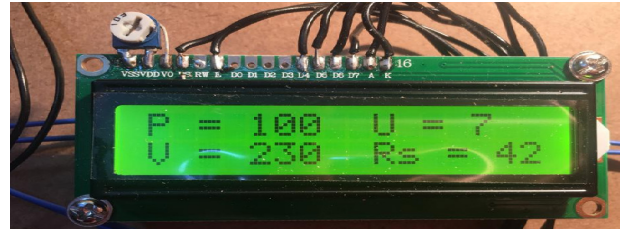

Figure 4: Result image2
Step2: Starts noting down the reading and the values are displayed on the LCD screen as shown Figure 4.